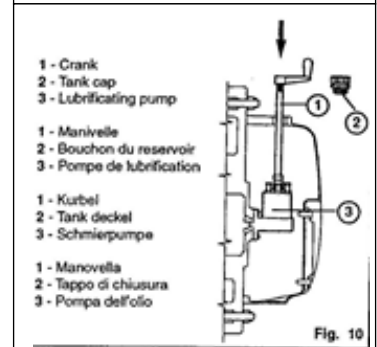

Fig. 10
**Pre-lubrication** –fig. 10-The vacuum pump must be manually pre-lubricated before it is started up for the first time in the day, and every time it is washed internally.